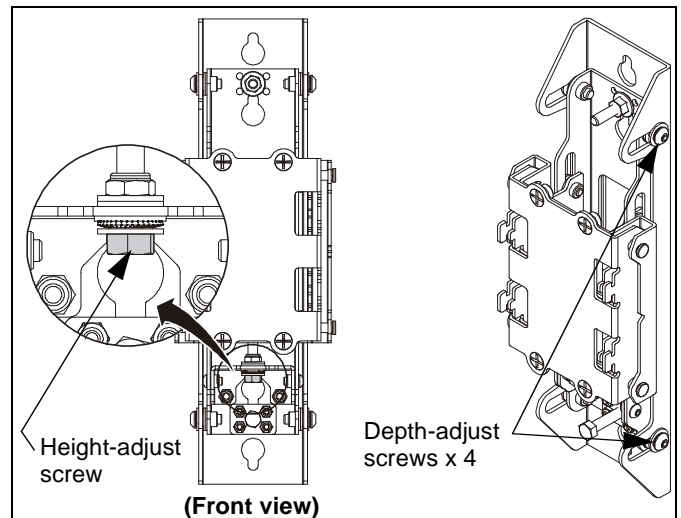

Figure 13
- Adjust the height of the mounting rail via the wall upright, as necessary, to level the mounting rail on the wall. (See Figure 13)